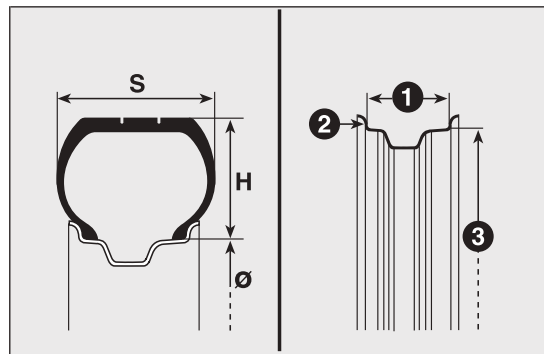

fig. 186
**Example fig. 186: 195/55 R 16 91V**
**CORRECT READING OF THE WHEEL RIM****Example fig. 186: 7 J x 16 ET 31****7** rim diameter in inches (1).**J** rim drop centre outline (side projection where the tyre bead rests) (2).**16** rim nominal diameter in inches (corresponds to diameter of the tyre to be mounted) (3 = Ø).**H2** shape and number of humps (circumference measurement which keeps the bead of Tubeless tyres in position on the rim).**ET 31** wheel camber (distance between the disc/rim support plane and the wheel centre line).